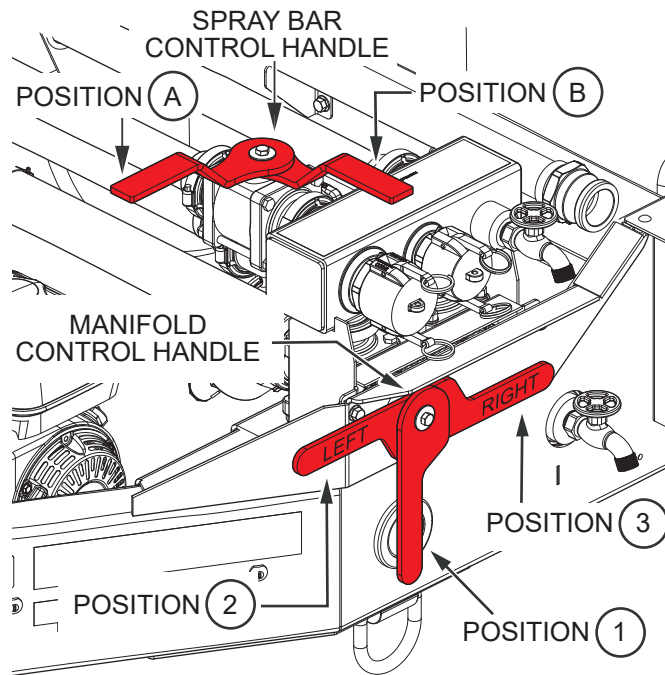

Figure 19. Pump Control Handle Positions
12. To activate pumping, set the manifold and spray bar control handles as shown in Figure 19 and Table 5.
Refer to Figure 19 and Table 5 for the various operating positions of the manifold and spray bar control handles.
3. Place the spray bar and manifold control handles in the **suction position** as shown in Figure 19 and Table 5.
3. Ensure that the **spray bar control handle** is in the **OFF** position (Figure 19, Table 5).
4. Place the **manifold control handle** in the **discharge** position (Figure 19, Table 5).
3. Place the **spray bar control handle** in the **ON** position (Figure 19, Table 5).
2. Ensure that the **spray bar control handle** is in the **OFF** position (Figure 19, Table 5).